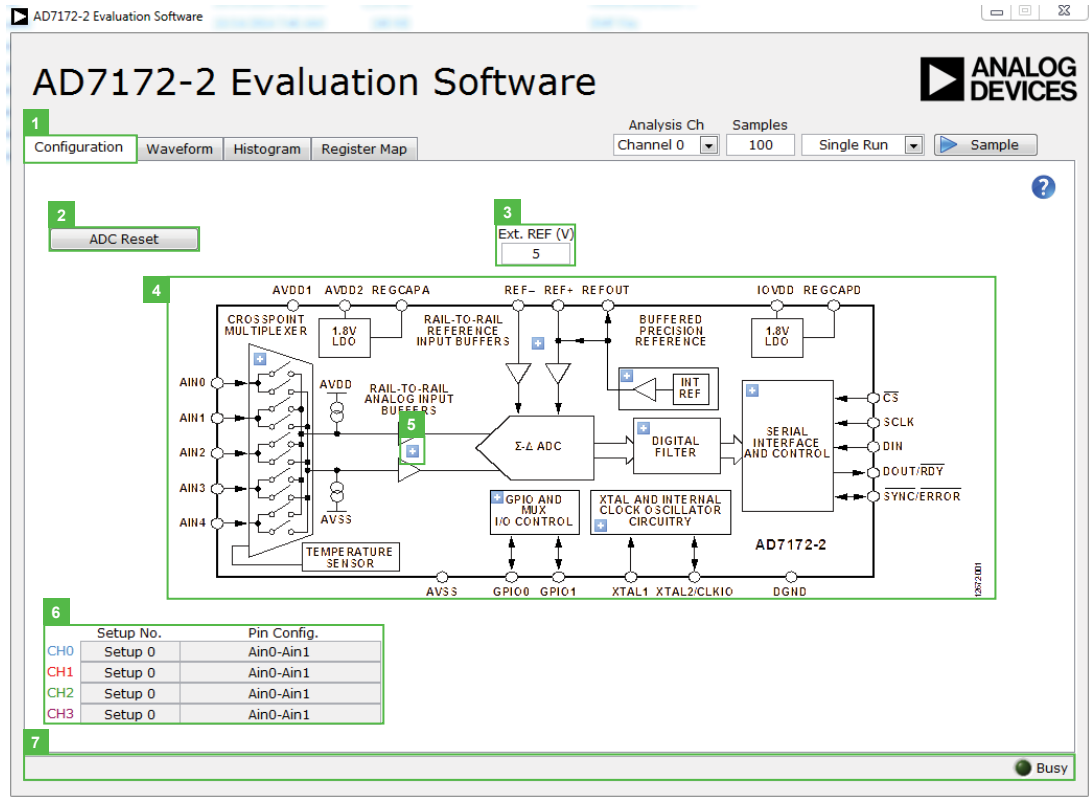

Figure 7. Configuration Tab of the AD7172-2 Evaluation Software
1. From the **Start** menu, click **Programs > Analog Devices > EVAL-AD7172-2SDZ**. The main window of the software displays (see Figure 7).
The main window of the software displays the significant control buttons and analysis indicators of the AD7172-2 evaluation board software (see Figure 7). This window is divided into four tabs: **Configuration**, **Waveform**, **Histogram**, and **Register Map**.
See Figure 7 for the **Configuration** (1) tab.
Click the **ADC Reset** (2) button to perform a software reset of the AD7172-2 (see Figure 7). There is no hardware reset pin. Perform a hard reset by removing power to the EVAL-AD7172-2SDZ. The software reset has the same effect as a hard reset.
The **Ext. REF (V)** (3) box sets the external reference voltage used for calculating the results on the **Waveform** and **Histogram** tabs (see Figure 7). The evaluation board has an external 5 V ADR445 reference that can be disconnected by removing R32. You can change the external reference voltage value within this box to ensure the correct calculation of results on the **Waveform** and **Histogram** tabs.
The functional block diagram (4) of the ADC shows each of the separate functional blocks within the ADC (see Figure 7). Click on one of the configuration buttons in this graph to open the configuration pop-up window for that block. Not all blocks have a configuration button.
The configuration pop-up button (5) opens a window that allows for configuration of the relevant functional block (see Figure 7).
The channel configuration overview (6) section shows the channel configuration including setup and analog inputs (see Figure 7). This allows for a quick check of how the ADC is setup.
The status bar (7) displays status updates such as **Analysis Completed** and **Reset Completed** during software use as well as the software version and **Busy** indicator (see Figure 7).
To exit the software, click the **Close** button at the top right corner of the **AD7172-2 Evaluation Software** window (see Figure 7).